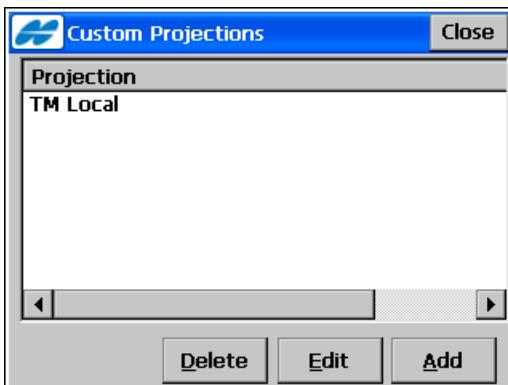

Figure 3-10. Custom Projections – Add New Custom Grid System
- **Custom** – opens the **Custom Projections** screen to add/edit user-defined projections (Figure 3-10 on page 3-13).
The **Custom Projections** screen (Figure 3-10) contains a list of custom projections (grid systems). Initially, this list is empty.